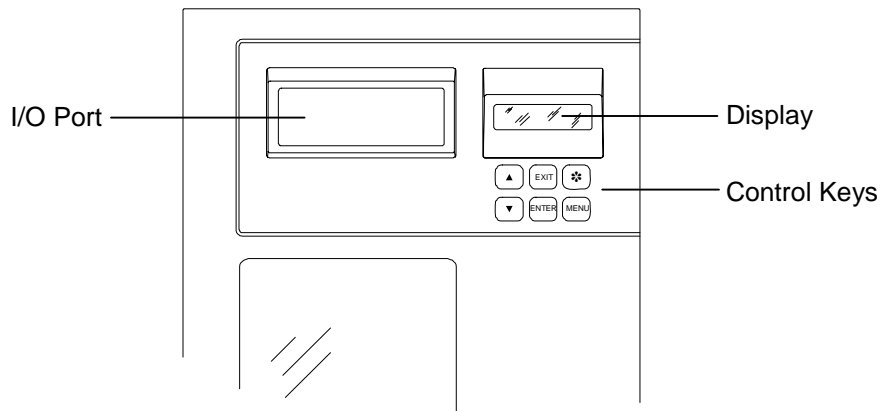
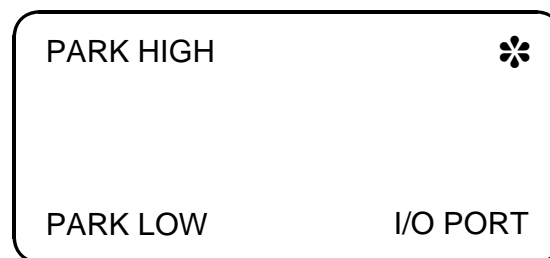
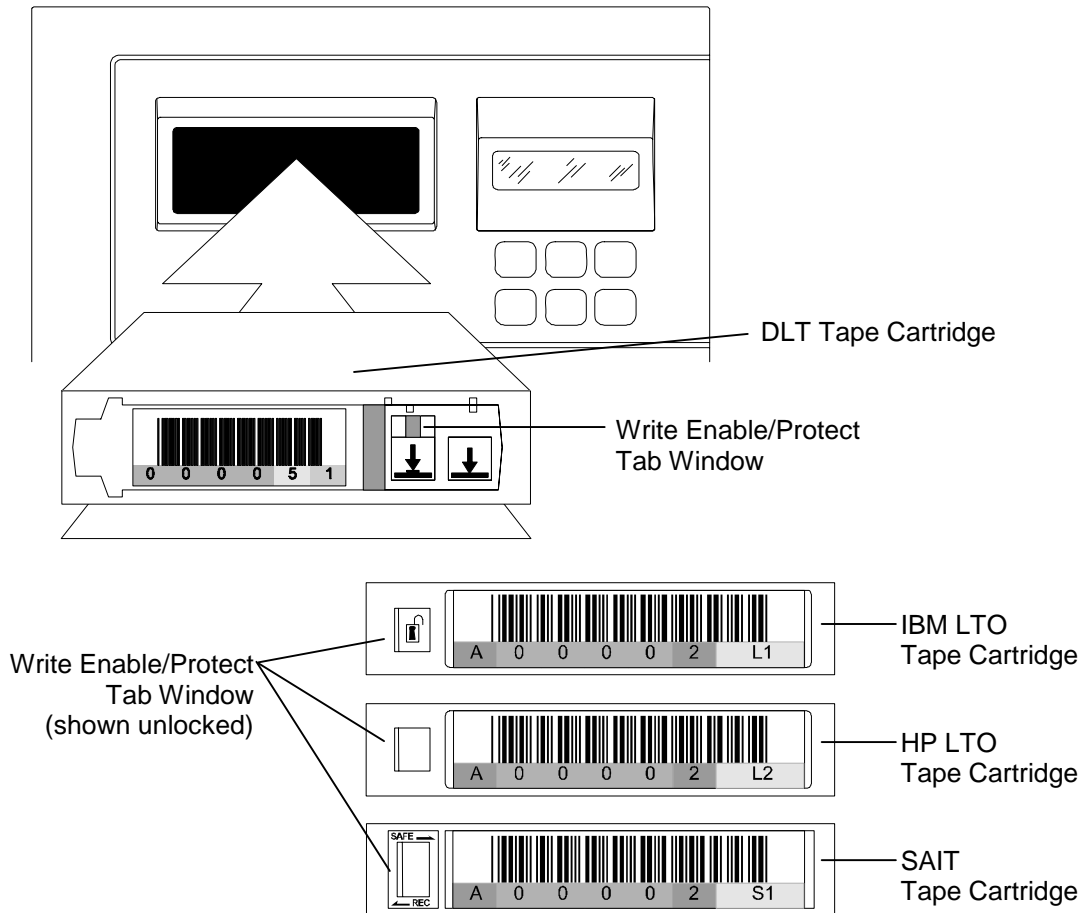

Figure 3-1 TLS Control Keys
Figure 3-2 ❁ (Daisy) Key Display
Figure 3-3 Inserting a Tape Cartridge into the I/O Port
The control keys make it possible to point to a particular item and change or edit its value, or to execute a command. The function of each control key is dependent upon the location within the menu structure. The control keys are shown in Figure 3-1.
1. While the operating display is visible (Figure 3-1), press and hold down the ❁ (Daisy) key to view the ❁ (Daisy) key display (Figure 3-2), press the MENU key to extend the I/O port slot, then release both keys. The I/O port door opens automatically when the I/O port slot extends.
2. Make certain the Write Enable/Protect tab on the tape cartridge is set correctly (see Figure 3-3), then fully insert the tape cartridge into the I/O port slot as shown.
While the operating display is visible (Figure 3-1), press and hold down the * (Daisy) key to view the * (Daisy) key menu (Figure 3-3), press the ▲ (UP) or ▼ (DOWN) key to execute the PARK HIGH or PARK LOW command, then release both keys.